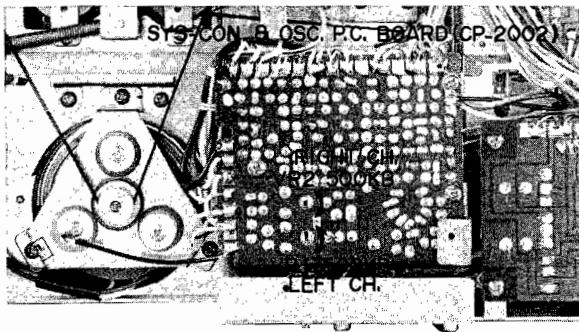

Fig. 23
4. FREQUENCY RESPONSE ADJUSTMENT (Refer to Fig. 23)